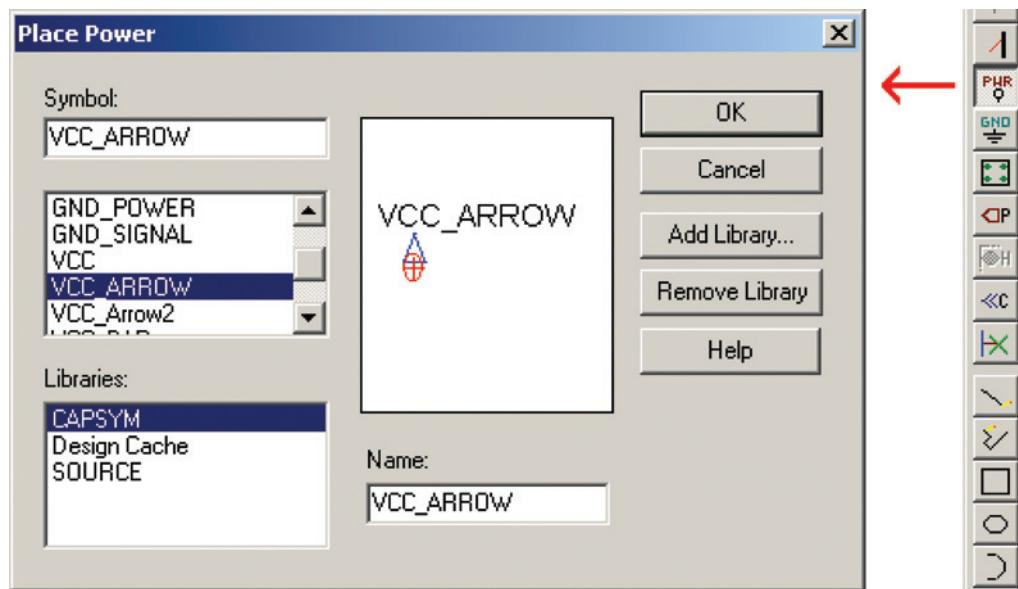

Figure 9-7 Placing global power symbols.
**To place power symbols** click the **Place Power** tool button and select one of the power supply symbols (**VCC** in this example) from the **Place Power** dialog box as shown in Fig. 9-7. Click **OK** and place the symbol onto the schematic.